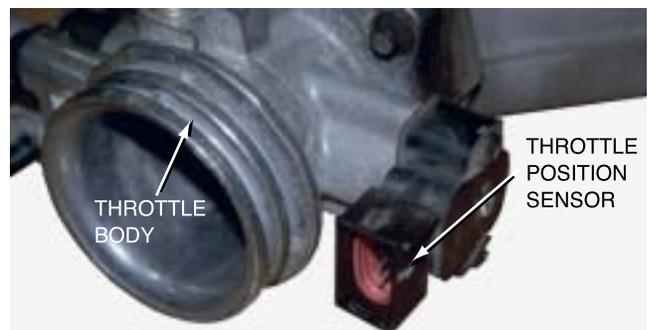

Figure 25-10 A typical throttle position (TP) sensor mounted on the throttle plate of this port-injected engine.
Most computer-equipped engines use a **throttle position (TP)** sensor to signal the position of the throttle. See Figure 25-10 and 25-11. The TP sensor consists of a **potentiometer** variable resistor. A typical sensor uses three wires: